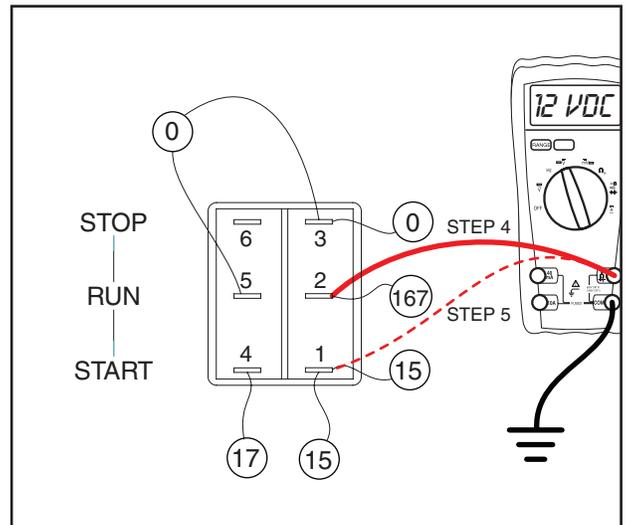

Figure 6-46. – Test Wire 167, Steps 4 & 5
5. Connect the positive meter test to Wire 15 at SW1. See Figure 6-46. Connect the negative meter test lead to frame ground. 12 VDC should be measured. If 12 VDC is measured, replace SW1. If 12 VDC is not measured repair or replace wire 15 between SW1 and the Starter Contactor Relay (SCR).